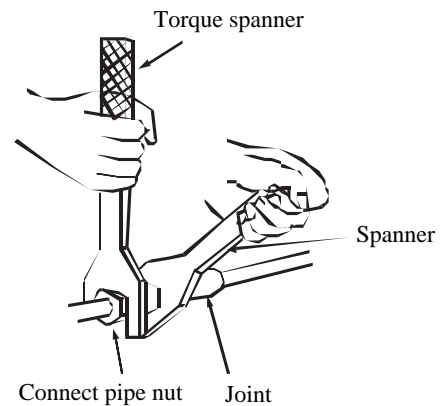

Fig. 11-9
- If possible, exhaust air in unit from core of air door from vacuum pump (As shown in fig.11-9).